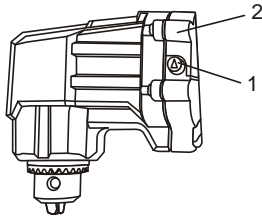

Fig. 1
The forward/reverse switch (1) is conveniently mounted at the front of the drill housing (2) (Fig. 1). To make the drill rotate clockwise for drilling, slide the forward/reverse switch to the left. To make the drill rotate counter-clockwise, slide the forward/reverse switch to the right.